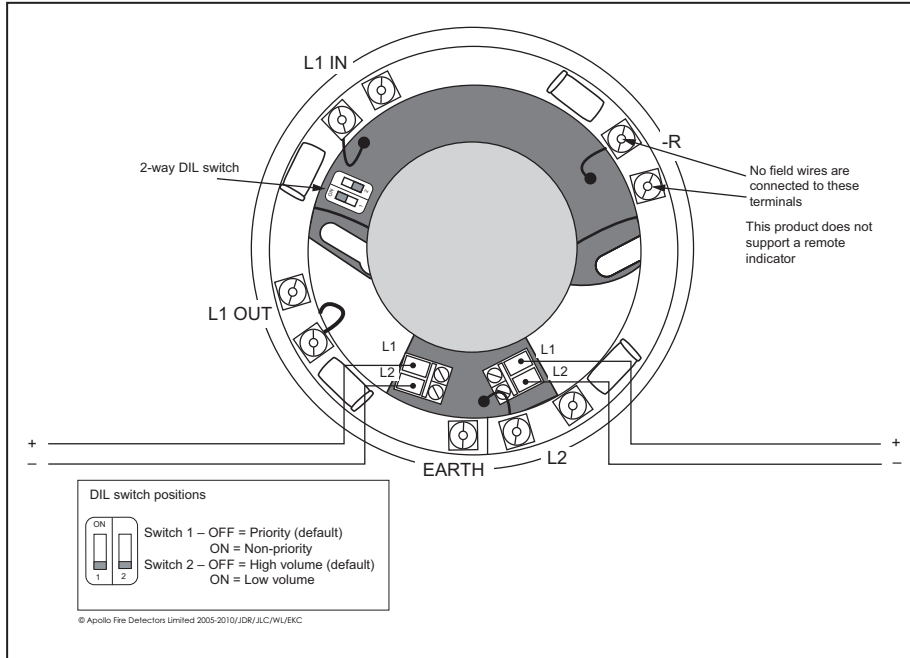

Fig 1 Sounder/Sounder Beacon Base
3. The priority/non-priority feature and volume are set by means of the DIL switch, see Fig 1.